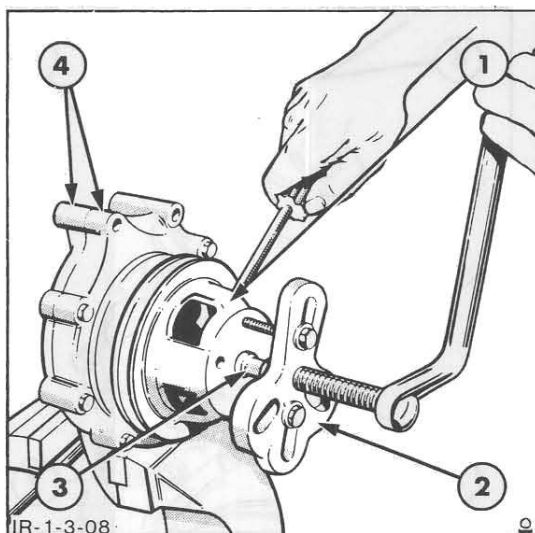

Figure 8
2. Use Puller Tool No. 1001 or 9196 and a sleeve slightly smaller in diameter than the pulley shaft to remove the pump pulley, Figure 8.